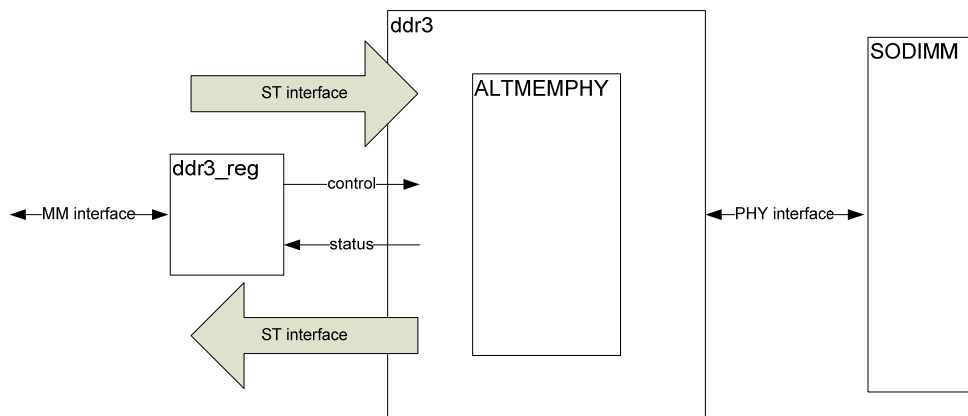

Figure 1: ddr3 module interfaces
An overview of the ddr3 module is shown in Figure 1. Altera's ALTMEMPHY MegaFunction contains a user interface to its internal High Performance Controller II, and the PHY interface to the (SODIMM) memory module itself. The ddr3 module provides streaming (ST) user interfaces to the read and the write sides of the memory controller. Optionally, it can trigger a writing sequence on reception of an SOP. Its internal driver accepts a start address and an end address so the user can set the desired address range. A ddr3 register instance (ddr3_reg) enables the user to access status and control signals through an MM interface.